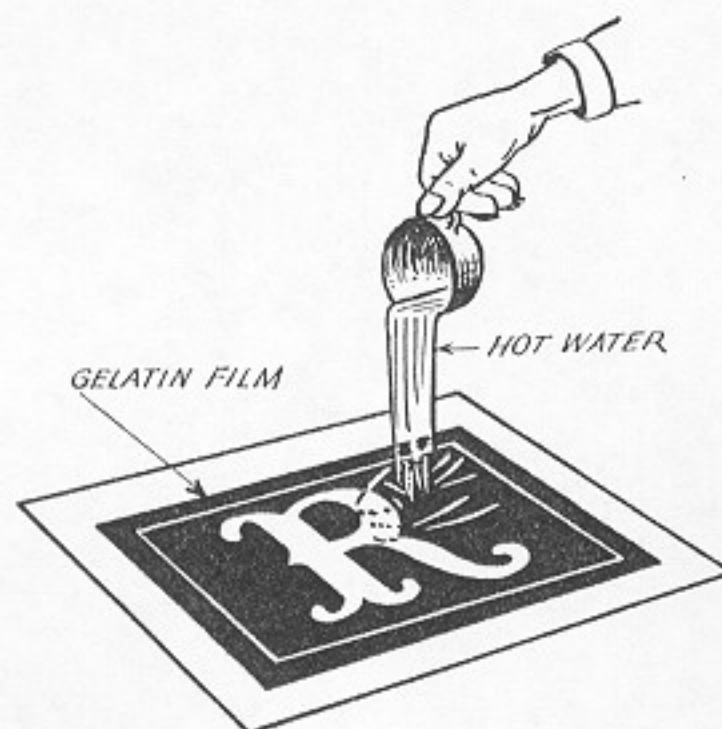

Fig. 143. Spray Film to Remove Stubborn Spots
10. Now place the film flat on a sheet of glass or cardboard and pour several cups of warm water over the open areas of the film, Fig. 143. This will remove any particles of gelatin which remain in the